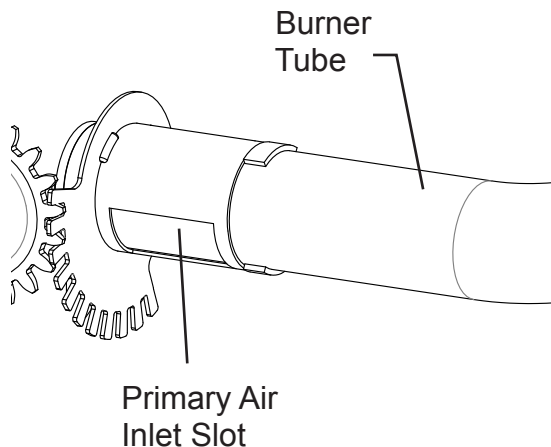

Fig. 33 - Primary Air Inlet Slot on Burner Tube
2. Inspect burner, pilot and primary air inlet holes on orifice holder for dust and dirt (See Fig. 33).